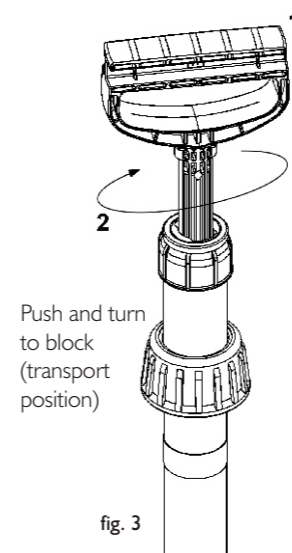

fig. 3
7. Block the pump handle in the transport position by pushing it down and turning it 90 degrees left – fig.3.